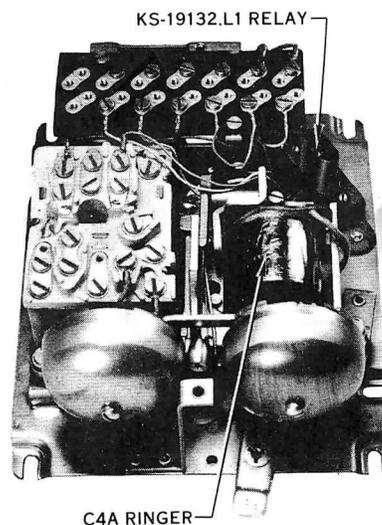

Fig. 7 - 685C Subscriber Set
6. 685C SUBSCRIBER SET (FIG. 7)